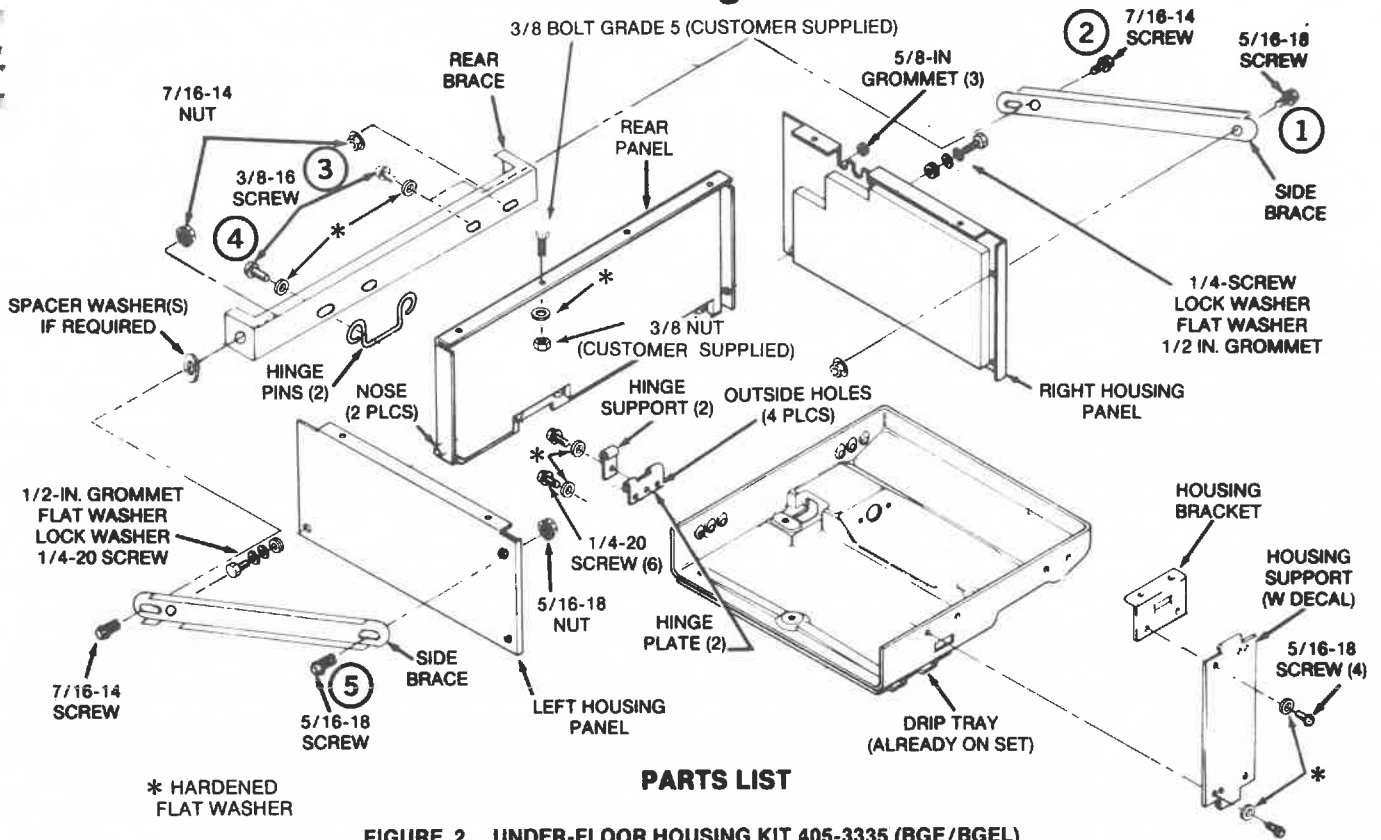

FIGURE 2. UNDER-FLOOR HOUSING KIT 405-3335 (BGE/BGEL)
During assembly refer to the under-floor housing kit illustration Figure 2 (405-3335) or 3 (405-3402). The vehicle must be parked on as level a surface as possible. Carefully follow these steps.
Use 3/8 inch nuts and bolts (grade 5 or better), to allow adequate mounting torque (not supplied due to length requirement variations between vehicle types). Use the enclosed 3/8-inch hardened flat washers on all mounting bolts. See Figures 2 and 3. Tighten mounting bolts to the recommended torque.
- A. **For BGE/BGEL Only:** See Figure 2. The notch in the side brace, used on the left side only, goes over the grommet on the left housing panel. On the right side, the grommet goes through the hole cutout of that side brace.
10. Tighten the capscrews and nuts for the right, left and rear braces in the order indicated in Figures 2 or 3. Be sure to follow this order (1 through 6). Observe the recommended torque values.
11. If there is excess clearance between the rear brace and the left side (engine side) brace by area "6" noted in Figures 2 or 3, fill the gap with the spacer washers provided. Tighten the capscrew and nut to the recommended torque.